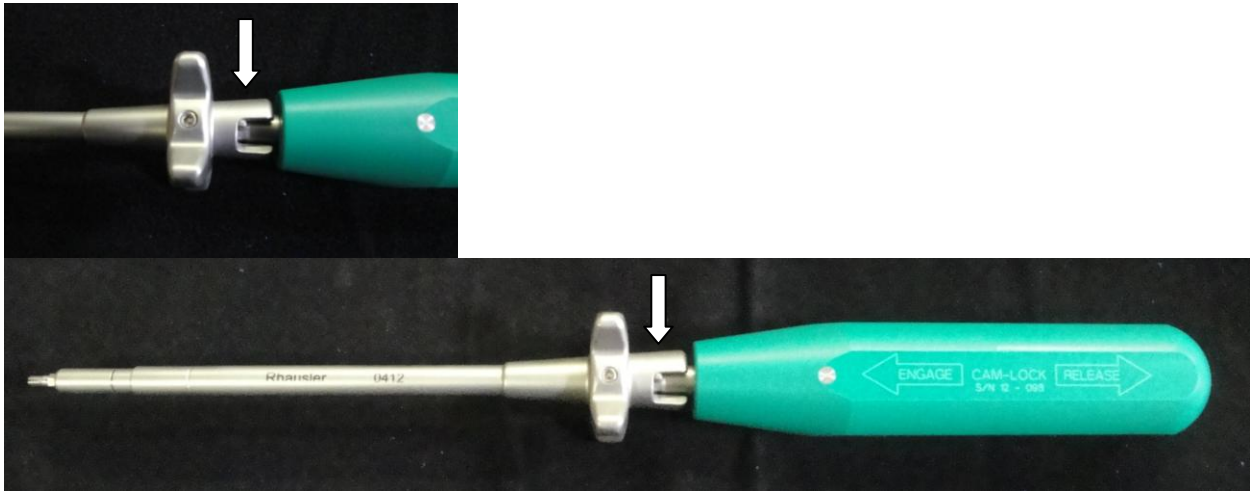

fig 1
- Prior to loading the bone screw on to the Screw Driver, be sure that the outer locking mechanism is pulled up to the handle until the pin stop (fig 1)
- Disengage the clocked screw driver by pulling straight out of the screw (coaxial with the trajectory of the screw) upwards with the screwdriver handle (see fig 1). This straight upward pull disengages both the inner hex in the screw and the outer hex in the cam. Bone Screw cam will now be in the locked position (see fig 8)
- Disengage the locking mechanism wheel by pulling the wheel up to the screwdriver handle until the pin stop (see fig 1). Then with a straight upward pull, disengage the screwdriver from the bone screw. Bone Screw cam will now be in the unlocked position (see fig 11)